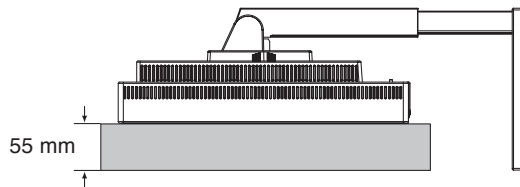

Figure S.1
3. Place monitor face down on a non-abrasive surface. (Place the screen on a 55 mm/ 2.2 inch platform so that the stand is parallel with the surface.) (Figure S.1)